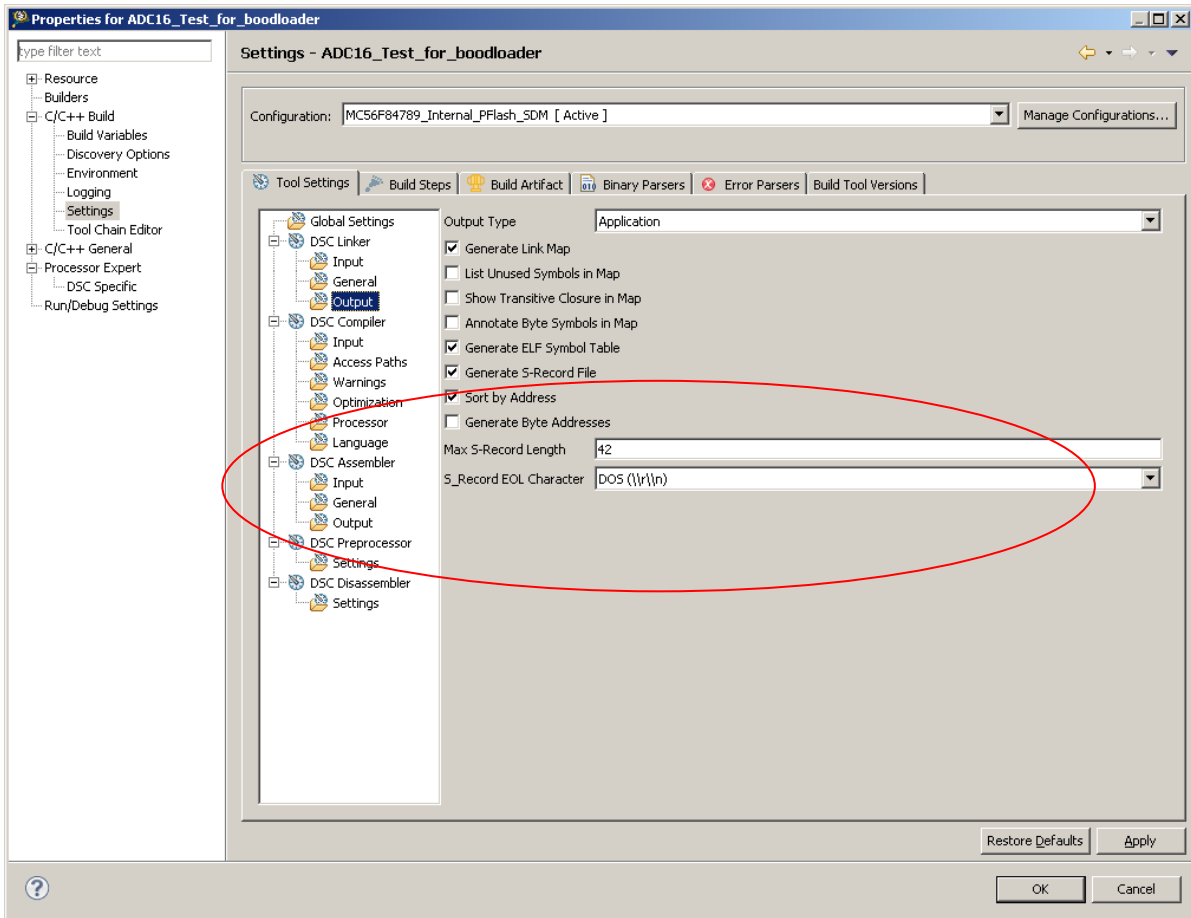

Figure 17. Configuration of generating s-record
1. S-record won't be generated by default; it should be enabled as shown in Figure 17. The option Sort by Address must be selected and the max s-record length shouldn't exceed 255. S-record EOL character should be DOS(\\r\\n).